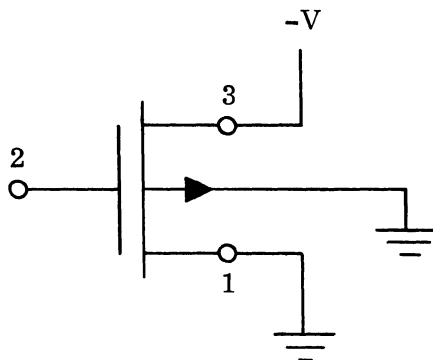

FIGURE 2
2. Which of the four basic types of MOSFET is shown in figure 2?